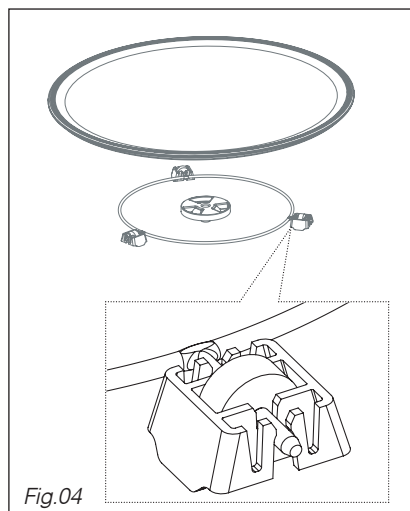

Fig.04
• **The driver:** causes the glass turntable to rotate (Fig.04).
• **The base rollers:** The wheels must be placed in the right direction (Fig.04).